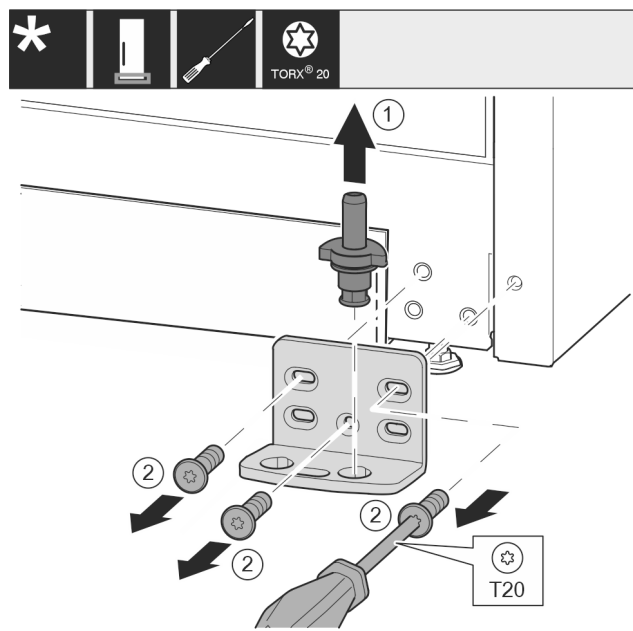

Fig. 29
- ▶ Pull the bearing bolt Fig. 29 (1) out upwards completely.
- ▶ Use screwdriver to unscrew the screws Fig. 29 (2) and remove the swap bearing block.